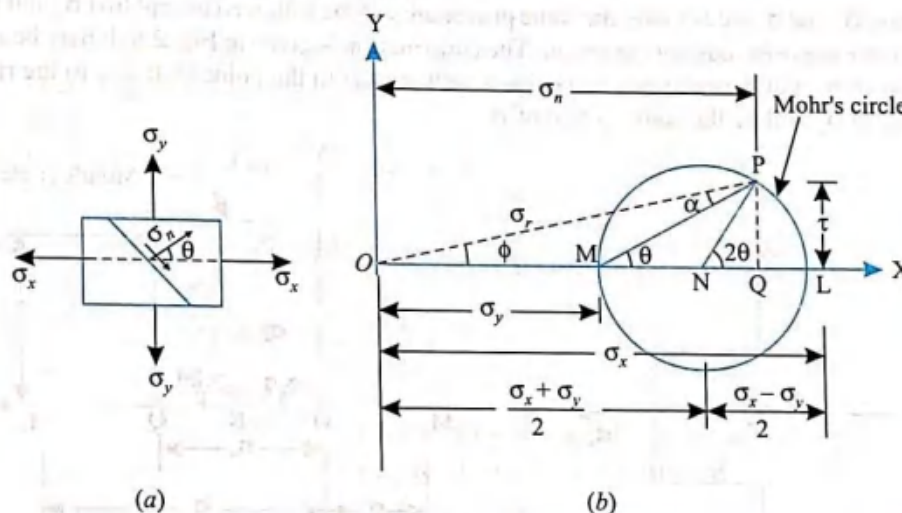

Fig. 2.7
Refer to Fig. 2.7. Steps of construction:
4. At the centre N draw a line NP at an angle 2θ , in the same direction as the normal to the plane makes with the direction of σ_x . In Fig. 2.7 (a) which represents the stress system, the normal to the plane makes an angle θ with the direction of σ_x in the anticlockwise direction. The line NP therefore, is drawn in the anticlockwise direction.